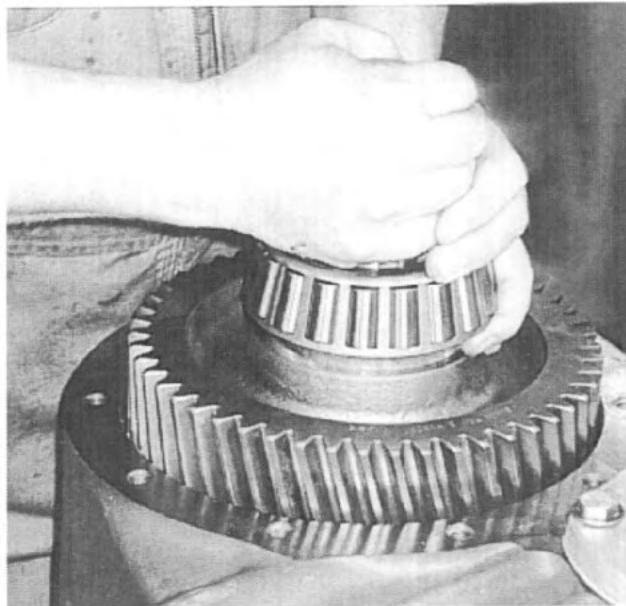

Fig. 90
29. Turn the transfer case over. Install the front input shaft assembly, threaded end up, into the transfer case housing. *See Fig. 90.*